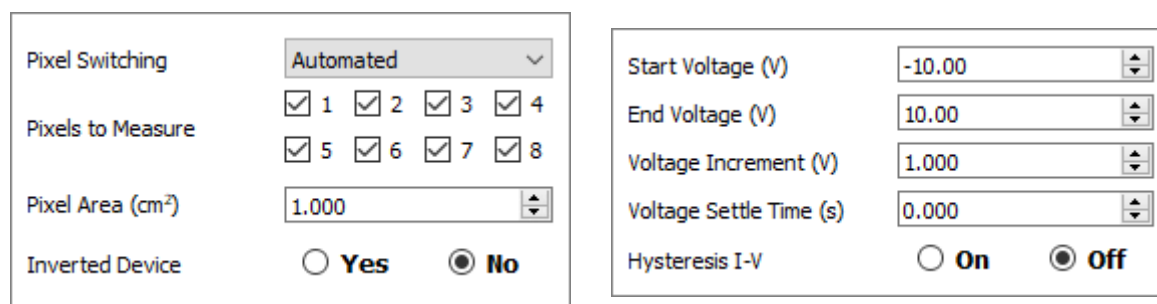

Figure 10.2. Measurement settings for the resistor test device.
4. Start the LED I-V software and enter the following settings in **Figure 10.2**.